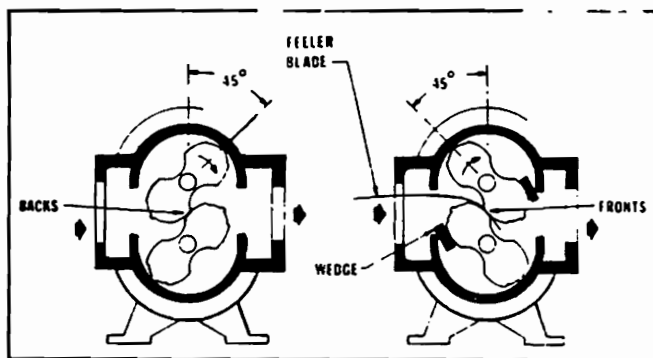
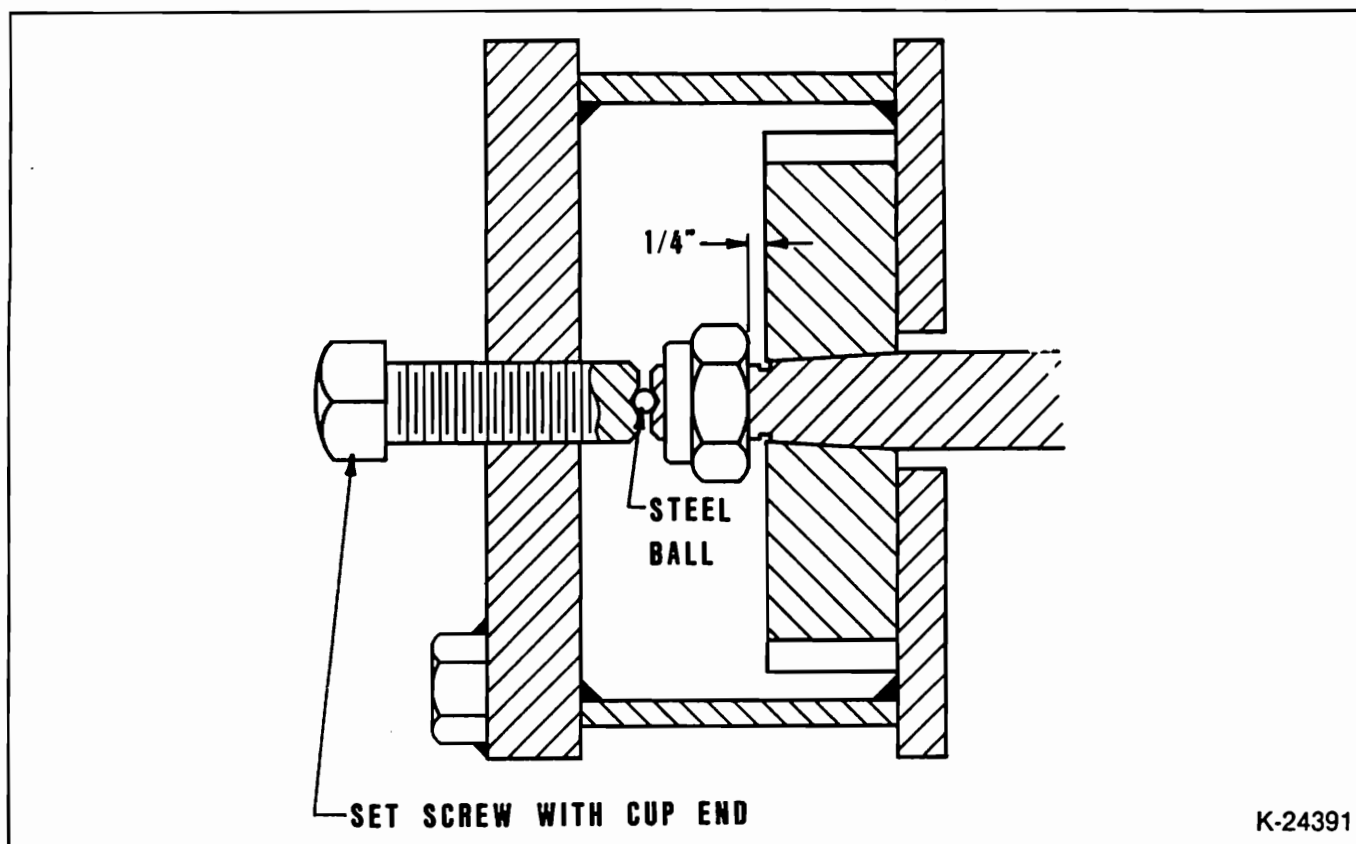
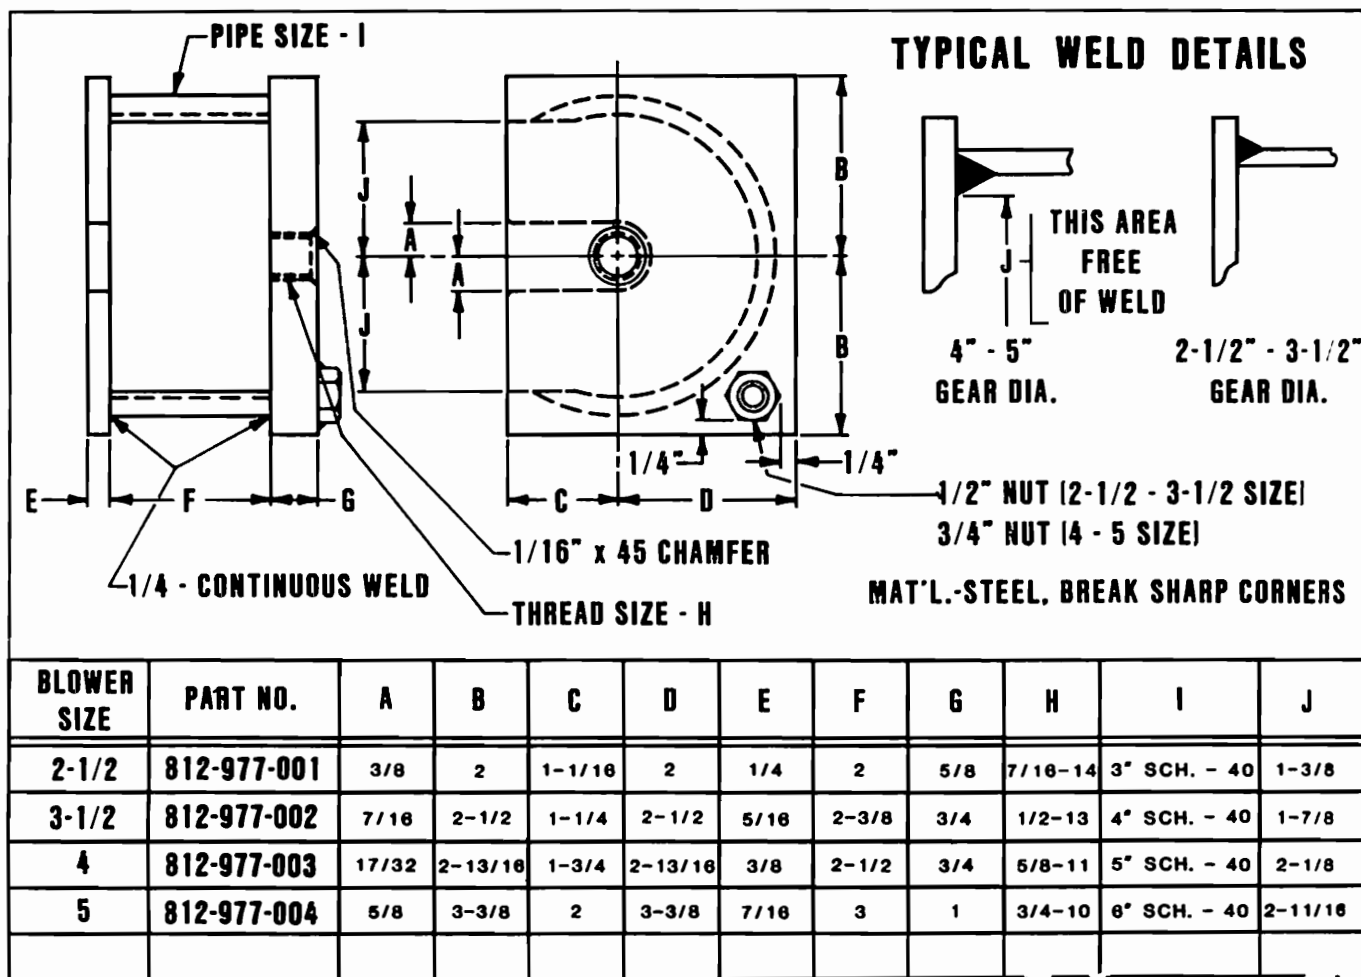

Figure 5 — Impeller Timing Viewed From Gear End
Figure 9 — Gear Removal
Figure 10 — Gear Pullers for U-RAI with Tapered Gear Bores
Item Numbers and their word descriptions from Figures 5 & 6. Also specify quantities wanted and the blower size and serial number from the nameplate.
3. **GEAR REMOVAL:** For this operation, the impellers should be wedged as shown in Figure 5. Back off gear clamping nuts (17) about 1/4". Use a puller of the type shown in Figure 10. Position it around the gear per Figure 9. As the puller set screw is torqued, the puller will have a tendency to turn and contact teeth of the other gear. To prevent this contact, hold the puller corner nut with a wrench while torquing the set screw. Once the gear is unseated, remove the puller. Remove gear nuts (17) and the gear. Repeat same procedure for the other gear. **DO NOT** remove gear nuts (17) completely before the gears are unseated from the taper fits or damage/injury may result.
4. GEAR INSTALLATION: Place impellers in correct position as previously marked. Be sure shafts and gear bores are clean and free of scratches. Clean the shaft tapered fits. Place hardwood wedges as shown in Figure 5. Install drive gear (4) and gear nut (17) so match mark at tooth is at the line of engagement. Tighten the drive gear nut to the torque given in Table 5. Blower assembly must be fastened down for torquing operation.
5. Installing driven gear (4) - Insert a long, metal feeler gauge between the impellers' lobes at the fronts or backs as shown in Figure 5. Feeler gauge thickness to be a middle value from Table 6 for fronts and backs. Align the gear so the tooth match marks agree with the drive gear, then install nut (17). Tighten lightly with a small wrench, then check front and back clearances against Table 6 for each 45° position. Both fronts and backs should be about the same and within the specified range in Table 6. Adjust gear position, if necessary, then insert the corrected feeler gauge and wedges and use a torque wrench to tighten the gear nut to the torque specified in Table 5. Remove wedges and rotate the drive shaft by hand to make sure there are no gear tight spots or impeller contacts.